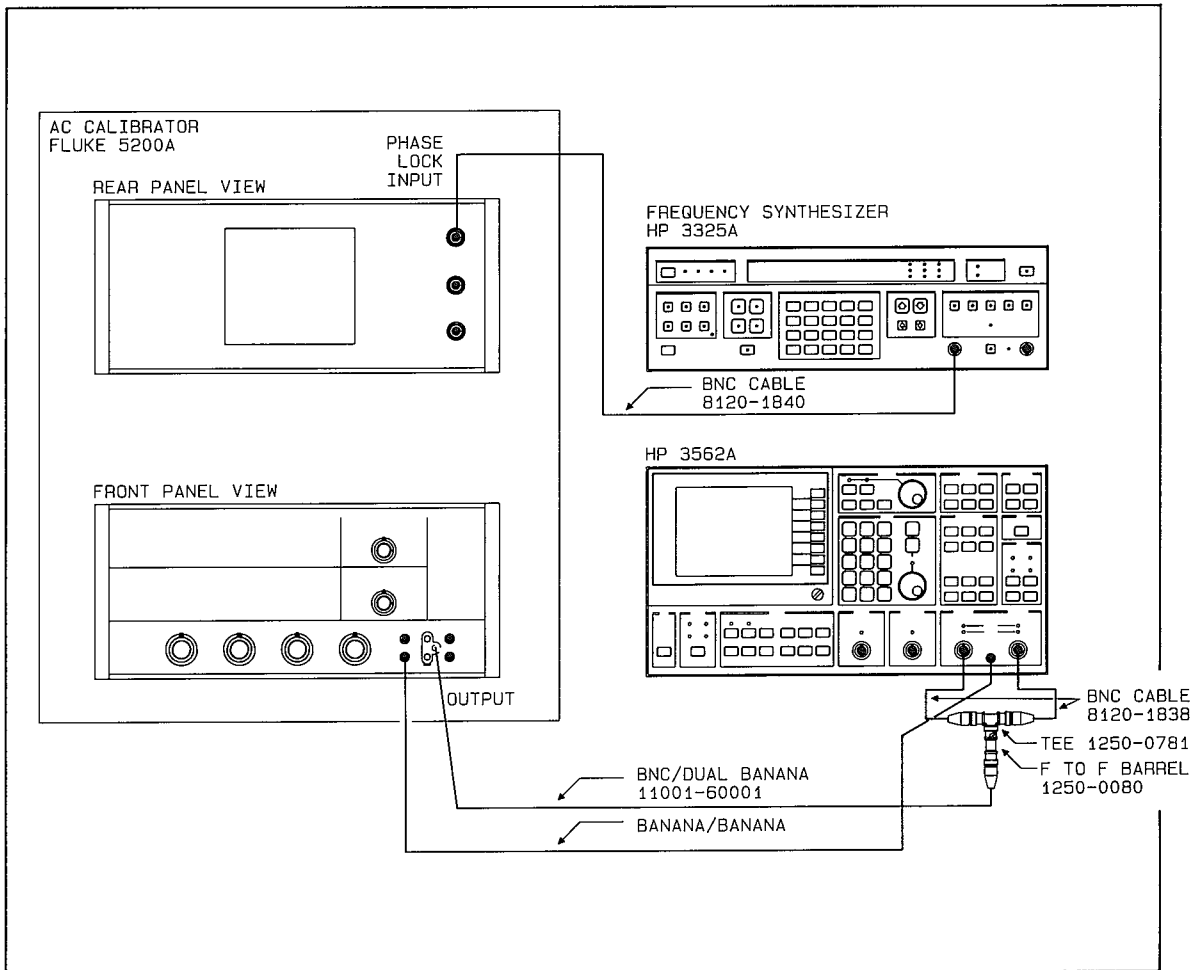

Figure 2-3(OV) Amplitude Accuracy and Flatness Test Setup
A. Connect the test instruments as shown in figure 2-3 . Refer to "Initial Equipment Setup," section 2-6, for unspecified parameters.